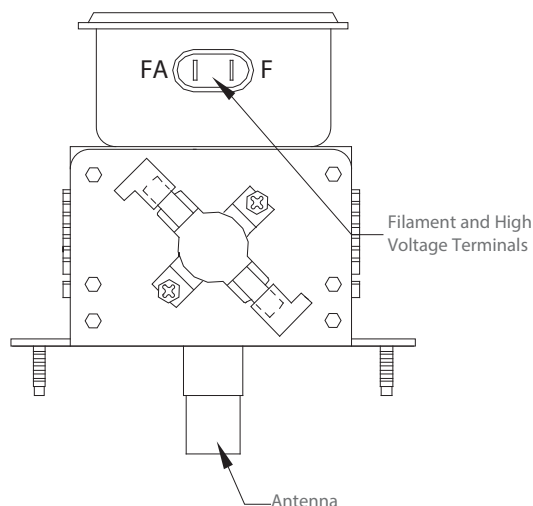

Figure 32: Magnetron
Figure 32. Magnetrons supply the RF energy at 2.45 GHz and begin to oscillate when they are supplied with approximately 4.1 kVDC at approximately .350 mA. During operation, each magnetron will output a nominal 1 kW of power.
2. Isolate the magnetron from the circuit by removing the wires from the F and FA terminals. Figure 32.
3. An ohmmeter connected between the filament terminals (F, FA) should indicate a reading of less than 1 ohm. Figure 32.